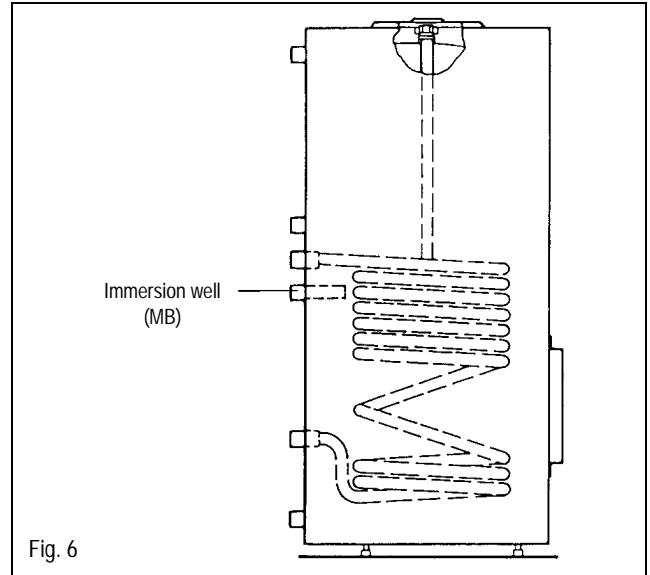

Fig. 6
- Fully insert the Ecomatic DHW sensor together with spacers and compensating spring into the immersion well (MB) (Fig. 6).
- Fully insert the SP34D probe together with the furnished spacers and compensating spring into the immersion well (MB) (Fig. 6).